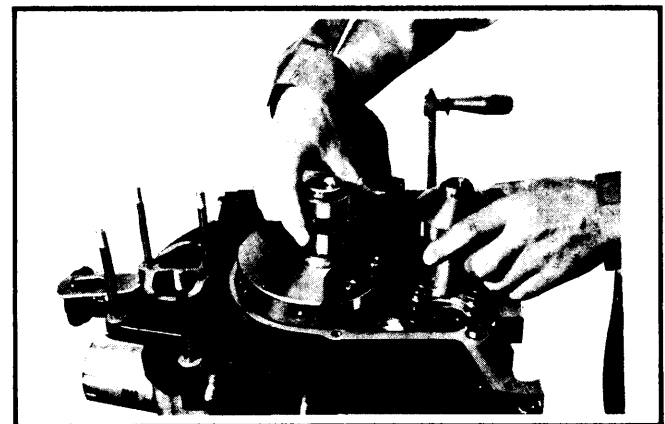

Fig. 3 Removing Sprocket & Chain from Engine
5) Turn engine so that front end is up. Remove front cover with gasket. Remove "O" ring from oil passage on front housing. Slide distributor drive gear off shaft. Remove chain adjuster. Remove oil pump sprocket lock washer and nut. Slide oil pump sprocket and eccentric shaft sprocket and drive chain off shafts simultaneously. See Fig. 3. Remove keys from shafts. Slide balance weight, thrust washer and needle bearing off shaft.